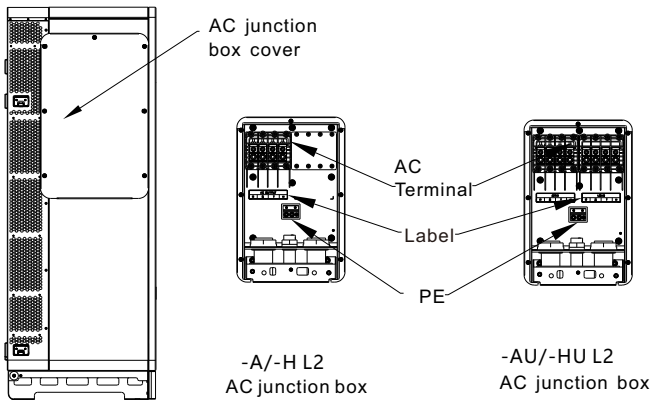

Fig 6.2 AC terminal wiring position and diagram
1. Open the cover of the AC junction box. The position of the cover is shown in Fig 6.2;
2. Connect a ground cable to the copper grounding bar in the AC junction box. Fig 6.2 shows the position of the grounding bar inside the AC junction box;
3. Connect the main power cables according to the label. Fig 6.2 shows the position of the label and the AC terminals;